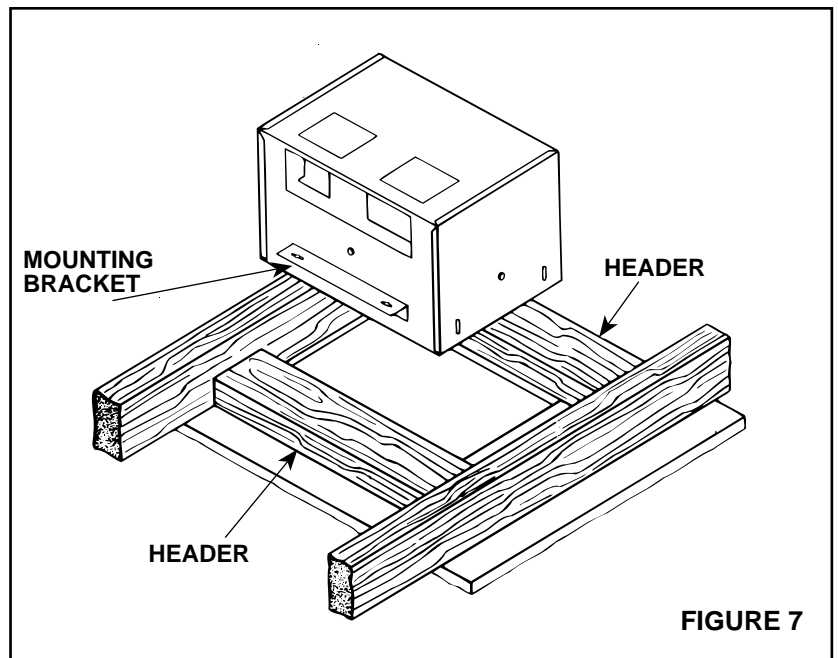

FIGURE 7
3. Refer to Figure 7. In attic or crawl space, mark ceiling for cutout by using the housing as a template. Cutout dimensions $10\frac{3}{16}$ " x $14\frac{3}{8}$ ". The short side ($10\frac{3}{16}$ " or cutout must be next to the ceiling joist.
5. Refer to Figure 7. Install headers between joists using nails or screws leaving $10\frac{3}{16}$ " between them.
6. Refer to Figure 7. The mounting brackets must be removed and placed on the opposite sides of the housing. **NOTE:** Each of the mounting brackets are secured by two (2) hex nuts.